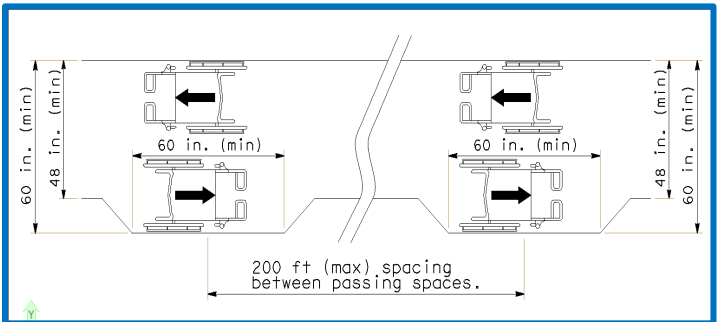

Figure 9 Passing Space
- When it is not possible to maintain a width of 60 inches, a 60 x 60-inch passing space must be provided at least every 200 feet to allow individuals in wheelchairs to pass. (See Figure 9.)